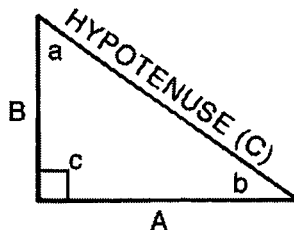

Figure A4
12. (b) The side of the triangle that is directly opposite the right angle is called the hypotenuse. See Figure A4. The hypotenuse is side C.